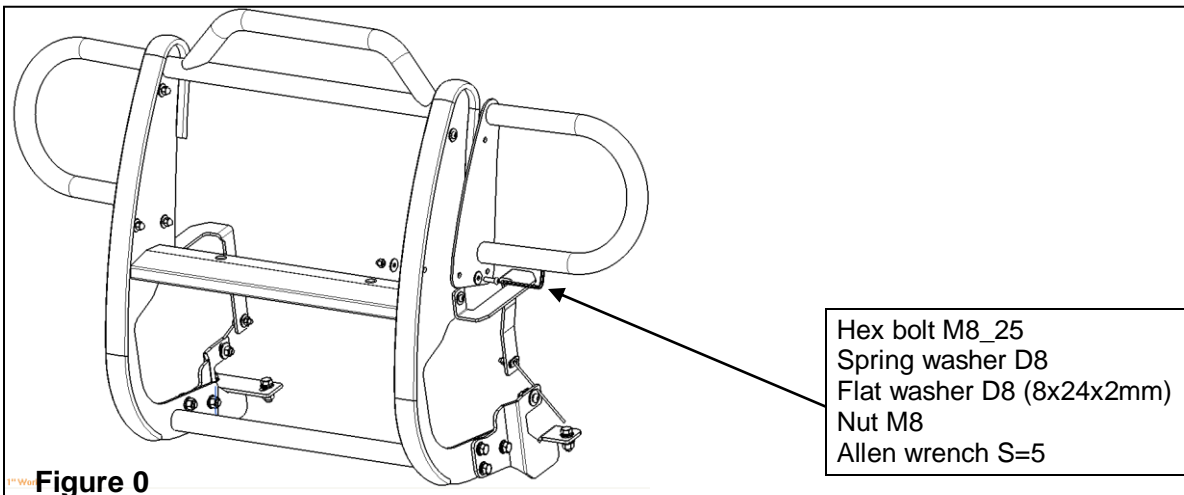

Figure 0
- Using Hex bolt M8_25 to install left/ right brush guard on the front guard. (Figure 0)